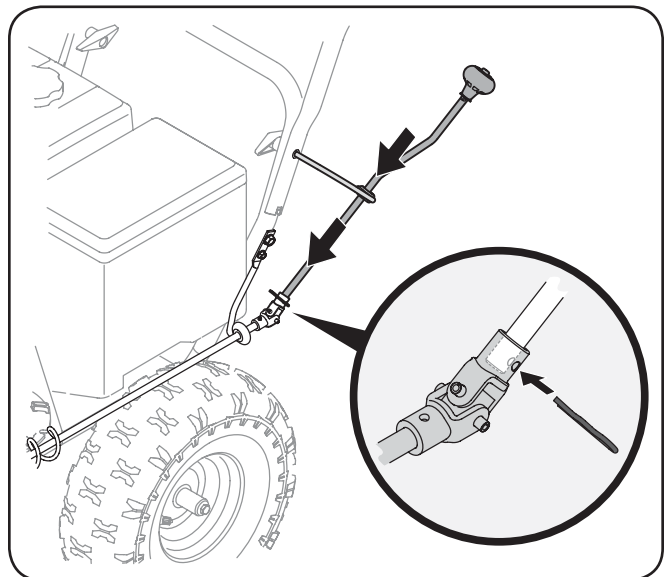

Figure 3-25
1. Insert the unattached chute control rod into the eye bolt on the left side of the handle assembly. See Fig. 3-25.
2. Line up the holes in the end of the unattached chute control rod with the holes in the u-joint attached to the lower chute control rod. Insert the cotter pin. See Fig. 3-25. If necessary, the bracket securing the lower chute control rod to the chute base can be adjusted. Refer to Chute Bracket Adjustment in the Service section.